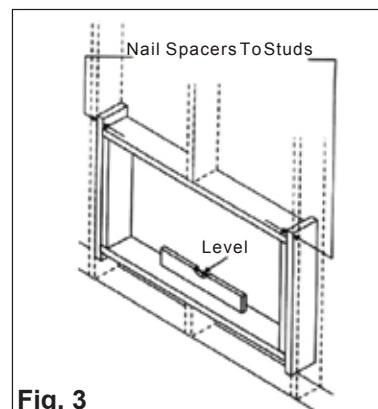

Fig. 3
4. Push metal cabinet side to release plastic tabs on each side of front panel. (See Fig. 3.)
4. Build wooden frame with the INSIDE dimensions of your model listed above. (Be sure to measure twice for accuracy.) Frame depth should be the same as wall thickness. Fill in the space from the opening to the studs with wood spacers. (See Fig. 3)